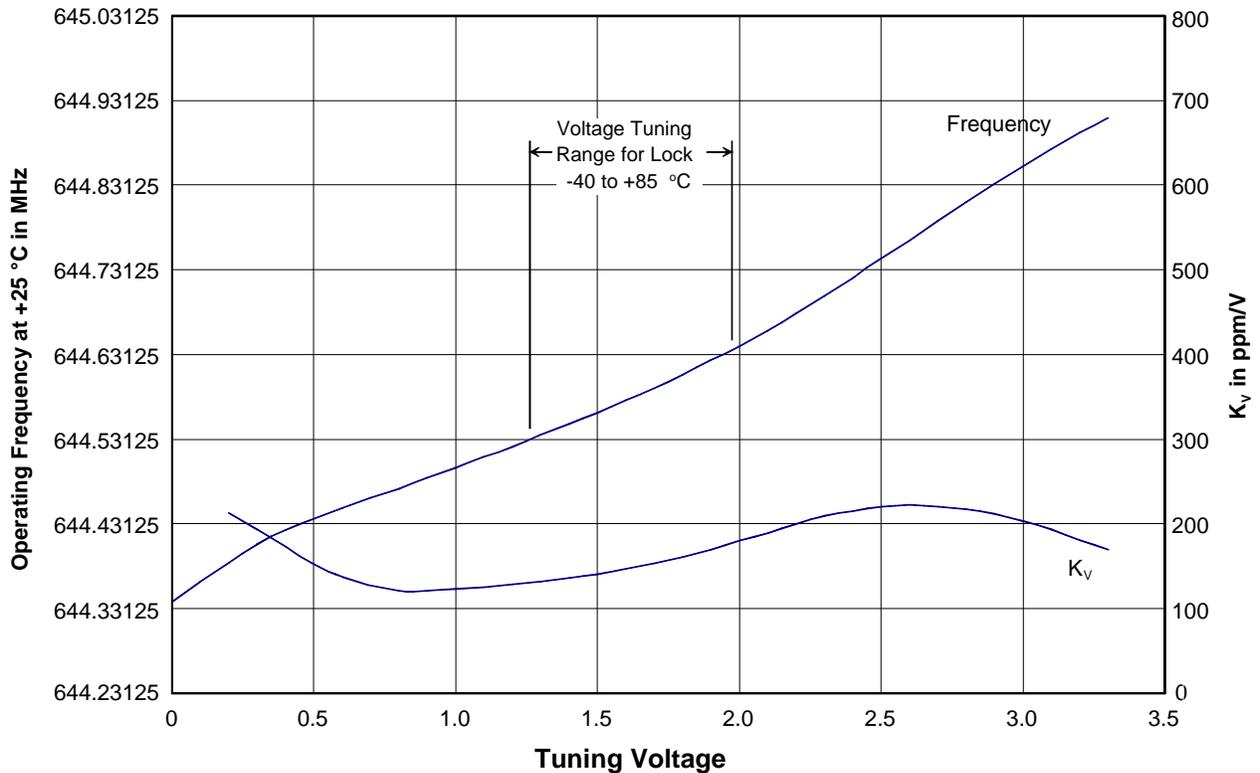

Figure 4
8. See Figure 4.
*Controlled Tuning Characteristics* - the OP4012B voltage tuning constant,  $K_V$ , is bounded between 100 and 260 ppm/V under locked conditions for reference signals with  $\pm 100$  ppm or better stability over the OP4012B's full operating temperature and supply voltage range. This allows a PLL based on the OP4012B to be designed with a well-controlled loop bandwidth and damping factor, avoiding problems such as jitter peaking, etc. The voltage tuning characteristic of the OP4012B is monotonic from 0 to 3.3 V, supporting reliable acquisition of phase lock. Figure 4 shows typical OP4012B tuning characteristics.
The frequency tuning of the OP4012B is characterized over a voltage range of 0 to 3.3 V. The tuning voltage applied to the OP4012B should be limited to this range. Figure 4 shows the typical locked tuning range for operation over  $-40$  or  $+85$  °C. The frequency shift of a quartz SAW frequency control device with temperature has the shape of an inverted parabola, with the highest frequency occurring around  $+25$  °C. At both  $-40$  and  $+85$  °C, there will be a 170 ppm downward shift in the frequency of the SAW device compared to  $+25$  °C. Tuning to compensate for this temperature shift is the same as tuning 170 ppm higher at  $+25$  °C. This is well within the tuning range of the OP4012B, as shown in Figure 4. Note that the voltage tuning constant,  $K_V$ , is bounded between 140 and 300 ppm/V under locked conditions for any temperature within the OP4012B's specified operating range.